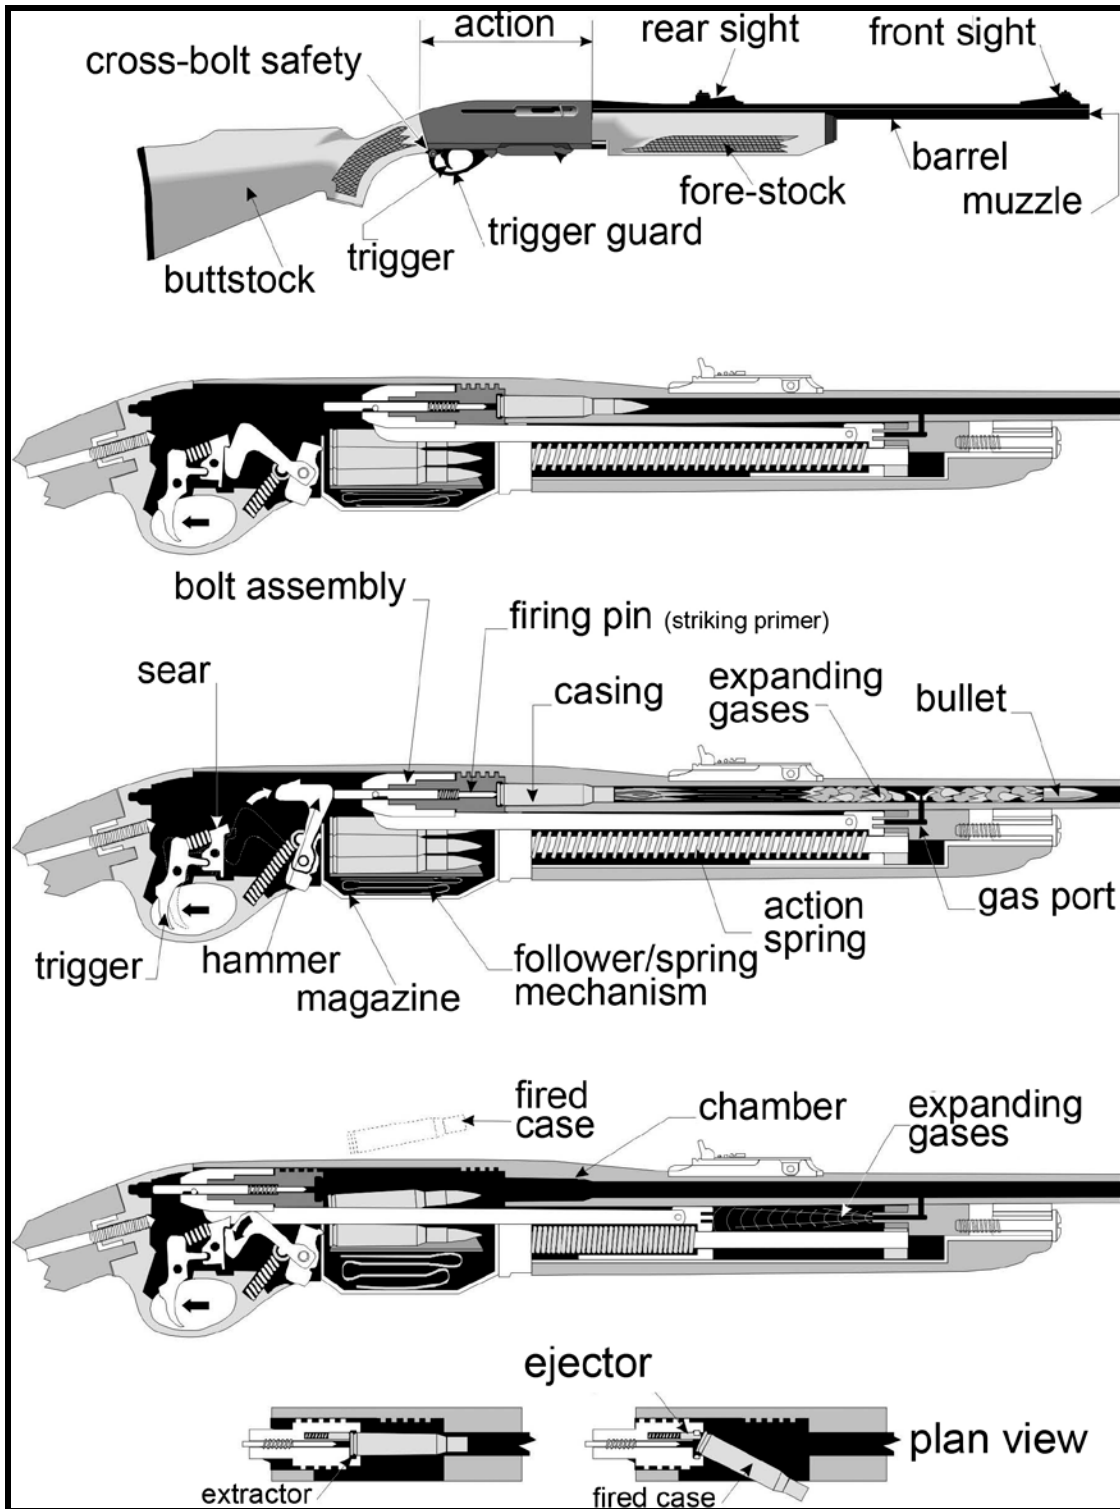

Figure 55. Firing sequence of a semi-automatic rifle
- b. With each pull of the trigger, the semi-automatic action uses part of the energy of the expanding gas from the burning powder to extract the empty cartridge case and to reload the chamber. In other words, no hand movement is needed to load another cartridge into the firing position; each time a cartridge is fired, another is loaded into the chamber (Figure 55).